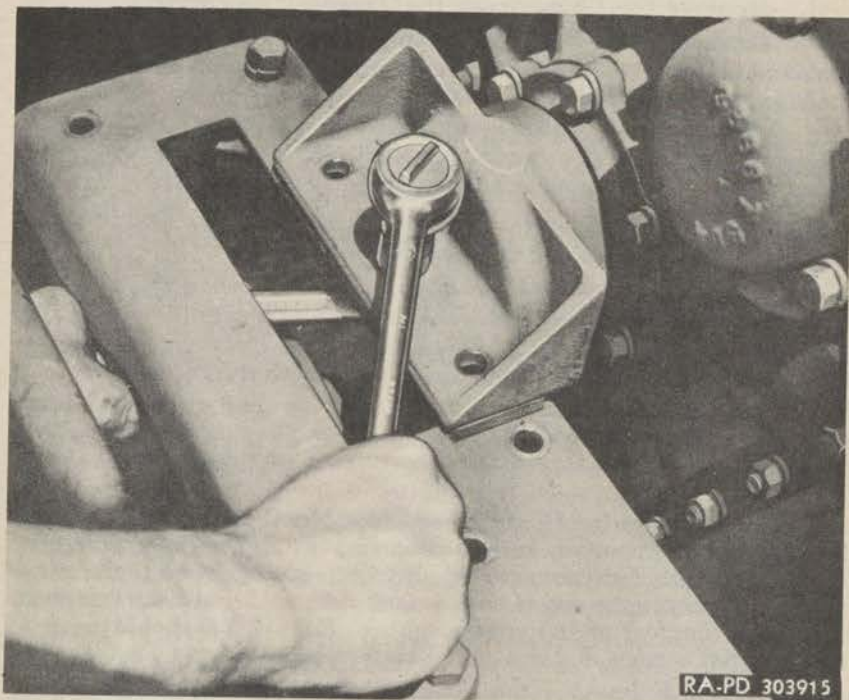

Figure 102—Tightening Rear Mounting Bolts
b. **Install Rear Mounting Bolts.** Install rear mounting bolts holding the transfer in place and then install the cotter pins and nuts (fig. 102).